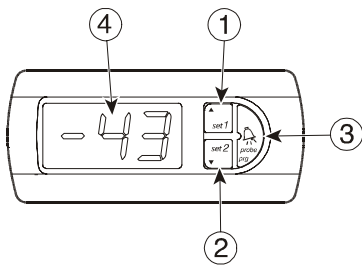

Fig. 2.3.1
Fig. 2.3.1 shows the front panel of the controller, on which there are three keys backlighted by as many LEDs (ref. ①②③) and the two and a half digits display and sign (ref. ④).
Three buttons (5, 6 and 7 in Fig.2.3.1) are used to activate and deactivate of the instrument's operating modes and set the parameters. The use of the buttons can be divided into two different situations: one in normal operation, and the other when setting the parameters. For each button, the following are the possible actions associated with both possibilities.